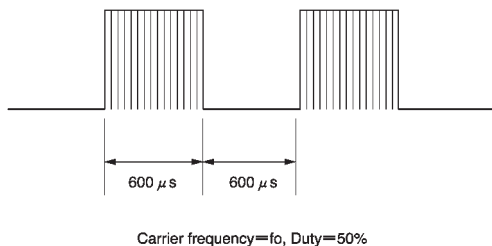
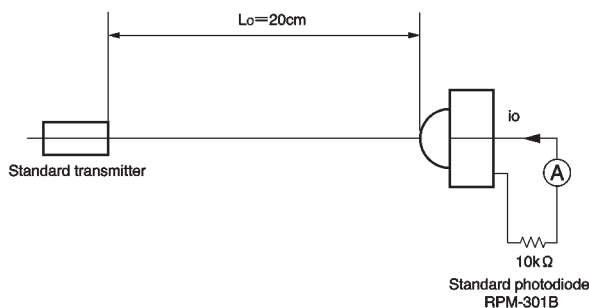
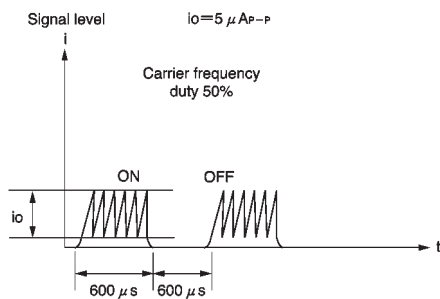

Fig.1 Transmit signal
Fig.2 Measurement of standard transmitter proofreading
Fig.3 Standard photodiode current
*1 The burst wave form mentioned in fig.1 is to be transmitted from standard transmitter (fig.2).
When standard transmitter output the signal at Fig.1 standard photodiode output become $i_o = 5 \mu\text{A}_{p-p}$ under the measurement condition Fig2, Fig.3.
(1) All characteristics of the receiver in this specification are specified by supplying burst wave form with ROHM standard transmitter (Fig.2).